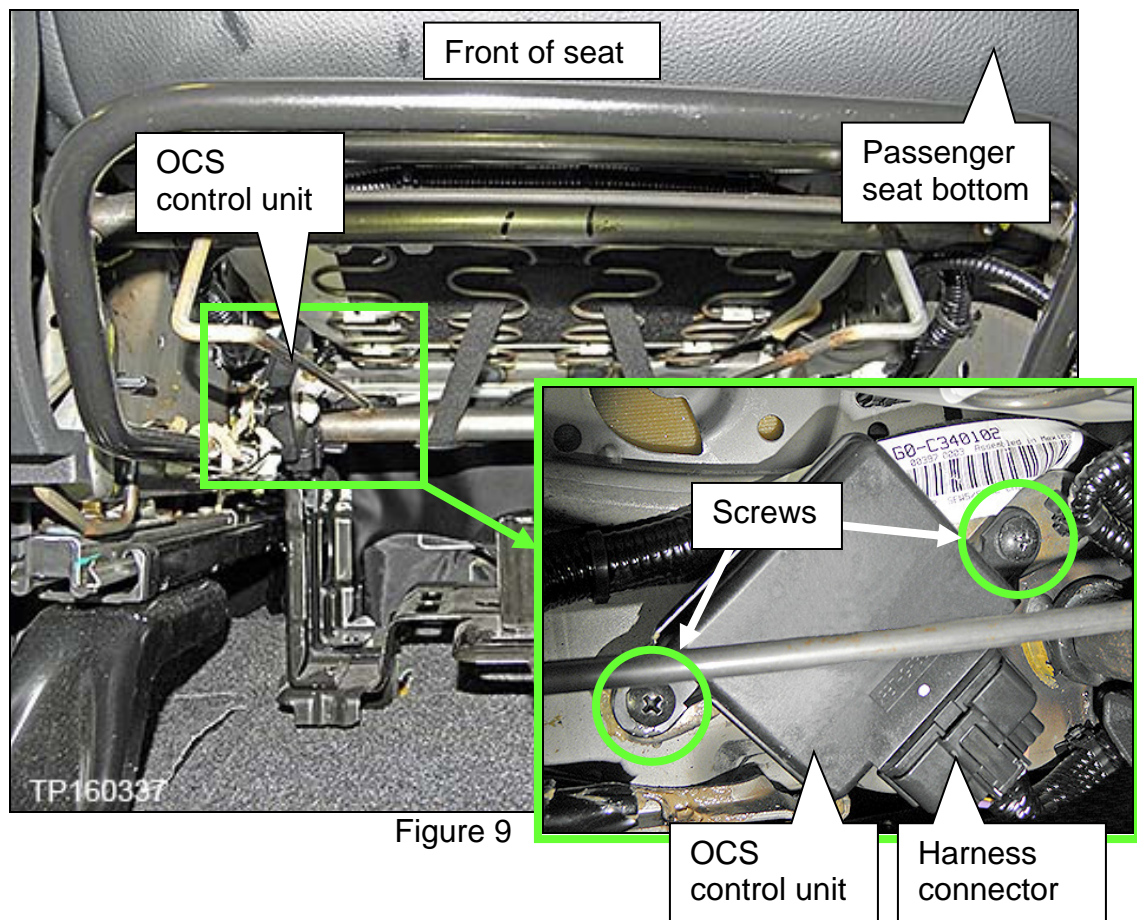

Figure 9
5. Remove two screws that attach the OCS control unit to the seat frame bottom shown in Figure 9.